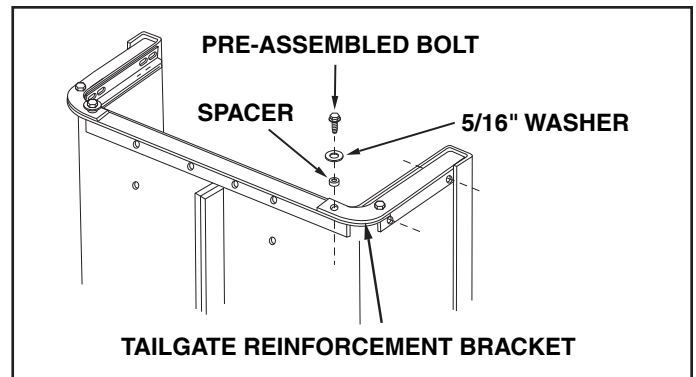

FIGURE 3
8. Remove the bottom two pre-assembled bolts in the tailgate reinforcement bracket. Assemble a 5/16" washer and spacer onto each bolt and reassemble it to the tailgate reinforcement bracket. See figure 3.